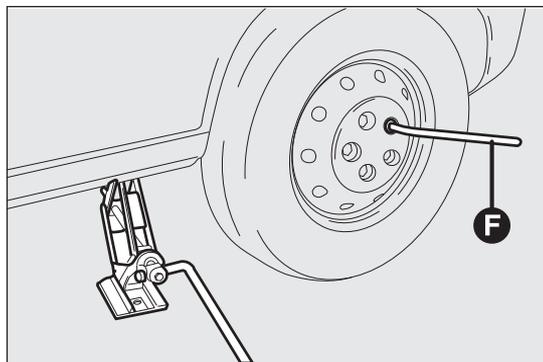

fig. 175
- use wrench F fig. 175 to completely unscrew the bolts and remove the wheel;